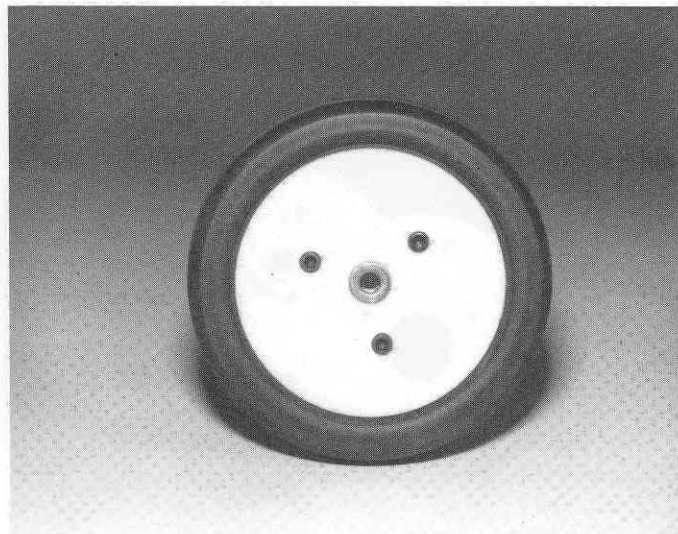

Fig. 194
□ **Fig. 194** Install the 3 Allen screws. DO NOT over-tighten these screws. Install the inside and outside #6863 wheel bushings or ball bearings.